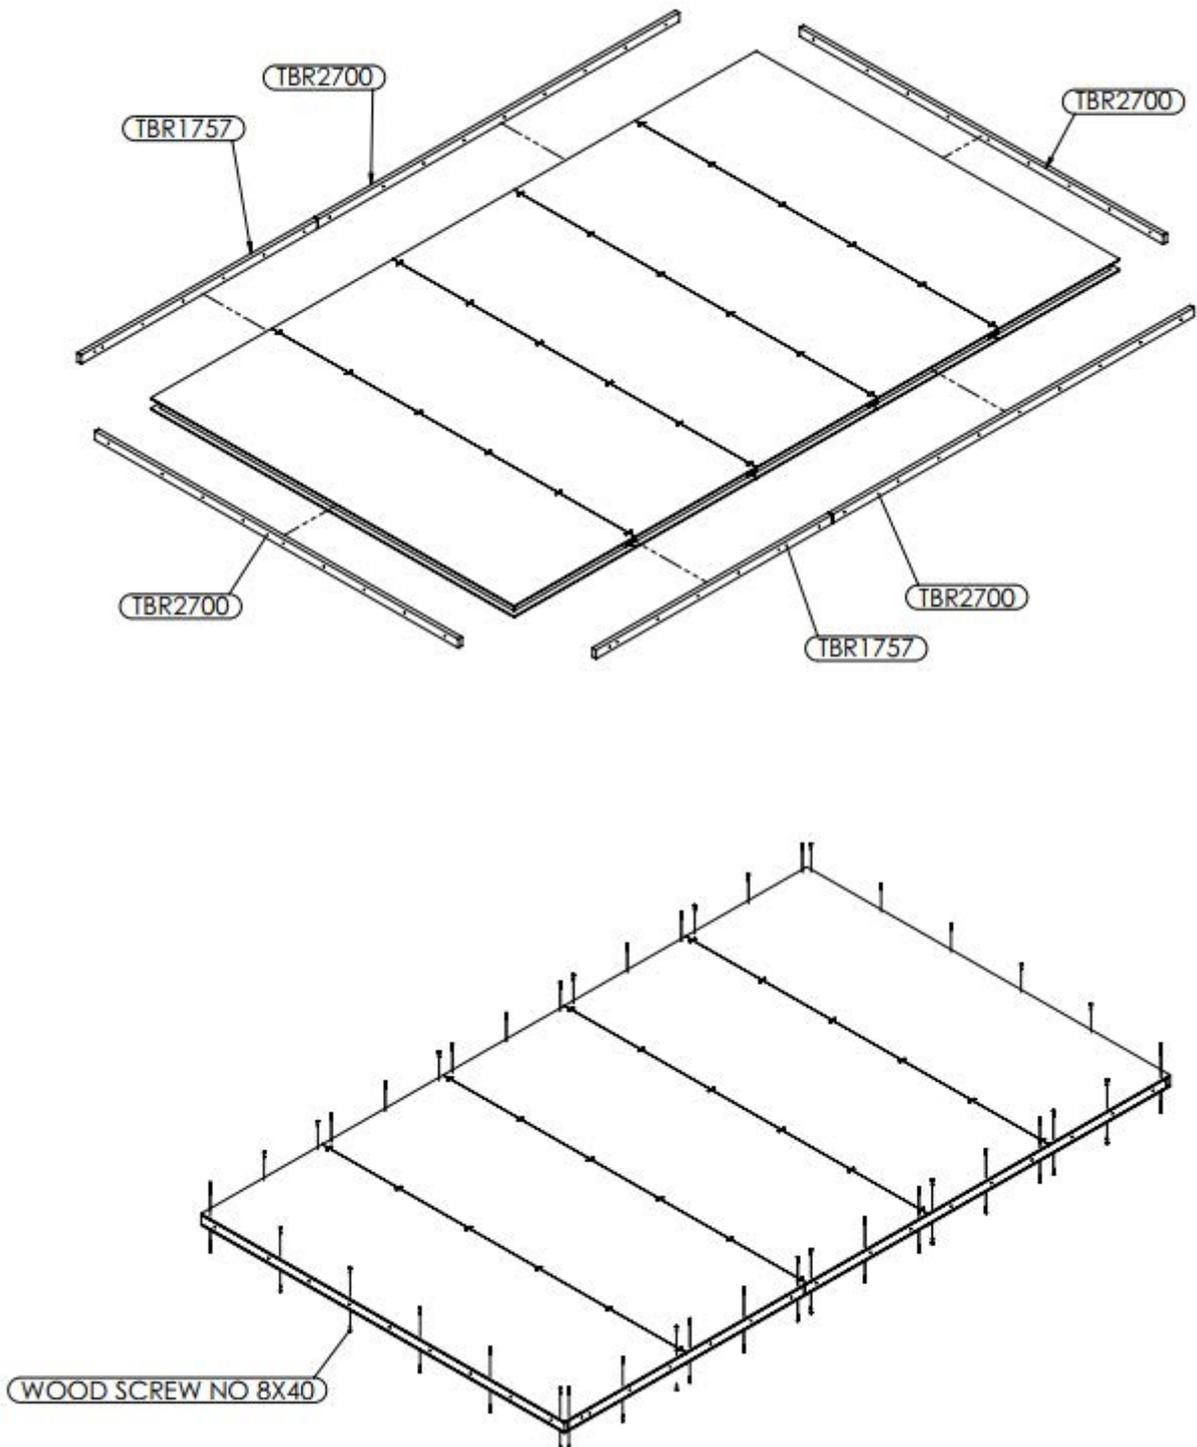

Figure 3: Connecting the side timbers
5. After positioning and securing the floor panels, place the side timbers at the panel edges (Figure 3).
6. Fit side timbers around the perimeter (Figure 3).